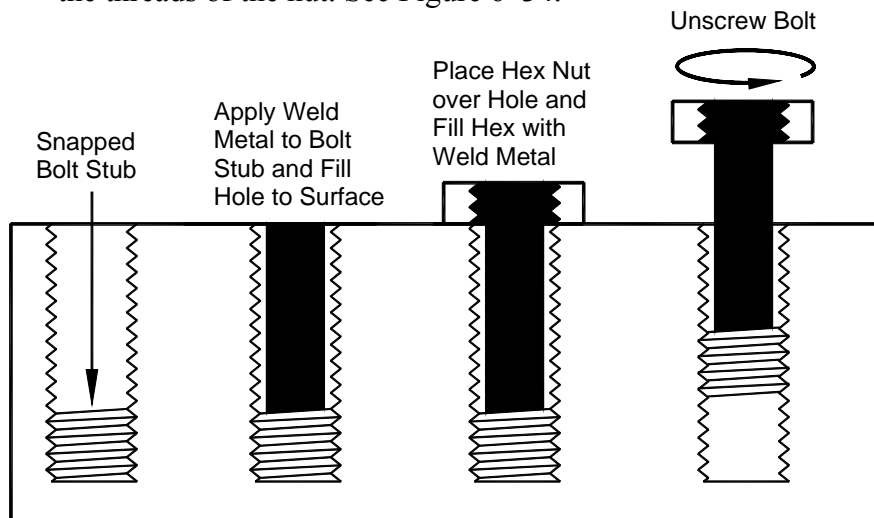

Figure 6–34. Welding a nut onto a broken bolt.
- Case II: If the fastener is *below* the workpiece surface, weld metal is fused to the fastener, and the hole is filled with weld metal. Then a nut is added as in Case I. Skilled weldors can remove broken fasteners which are 5 to 8 diameters below the surface. Weld metal added inside the fastener hole will not adhere to the sides of the hole and ruin the threads because welding only takes place in line with the electrode, not to its sides. Tilting the GTAW torch inside the nut welds filler metal to the threads of the nut. See Figure 6–34.